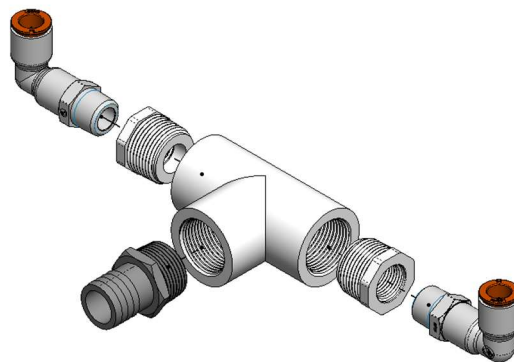

Figure 11. Reclaim Underbody Hose Splitter
Step 10: Assemble the hose splitter as shown and connect ½" poly lines to manifold. Use thread tape on all threaded connections. See Figure 11 below.